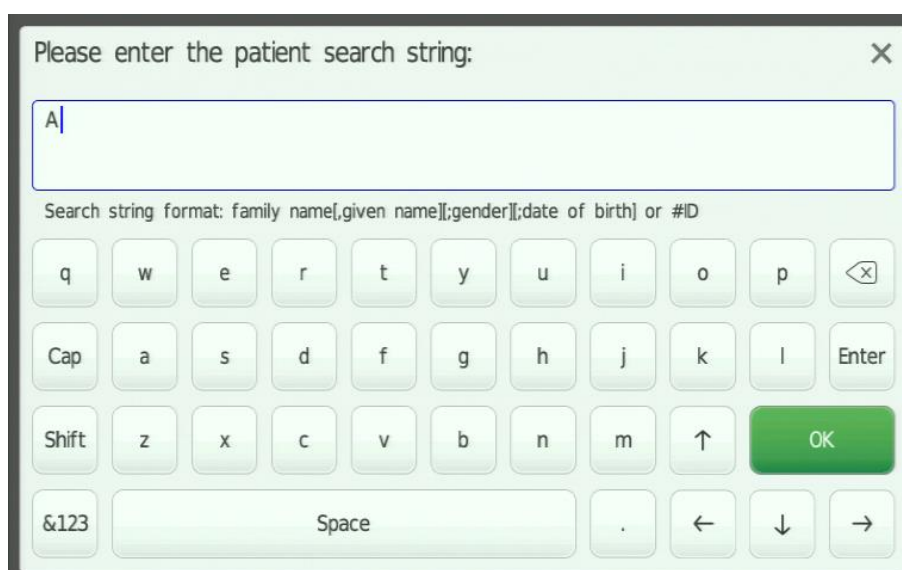

Fig. 23 Text input field to define a patient search
- Define the patient search by entering text into the text input field which will open then (Fig. 23).